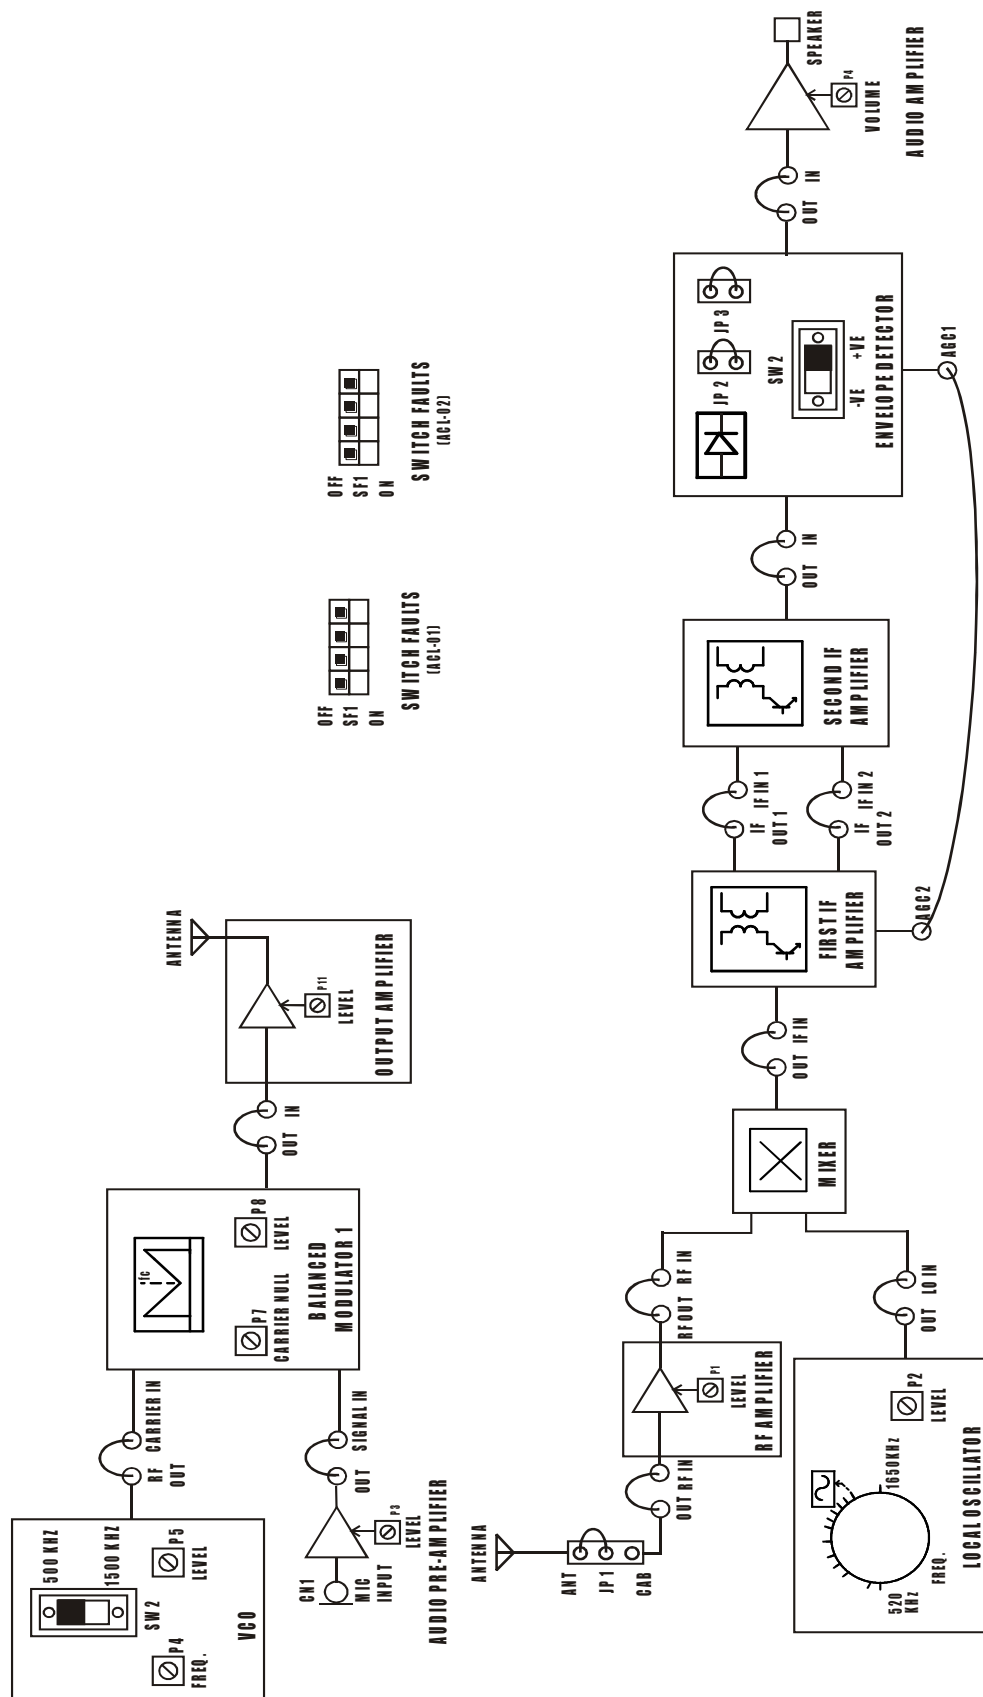

FIG. 9.2 BLOCK DIAGRAM FOR VOICE COMMUNICATION WITH DSB-AM VIA ANTENNA
1. Refer to the FIG.9.2 and Carry out the following connections.